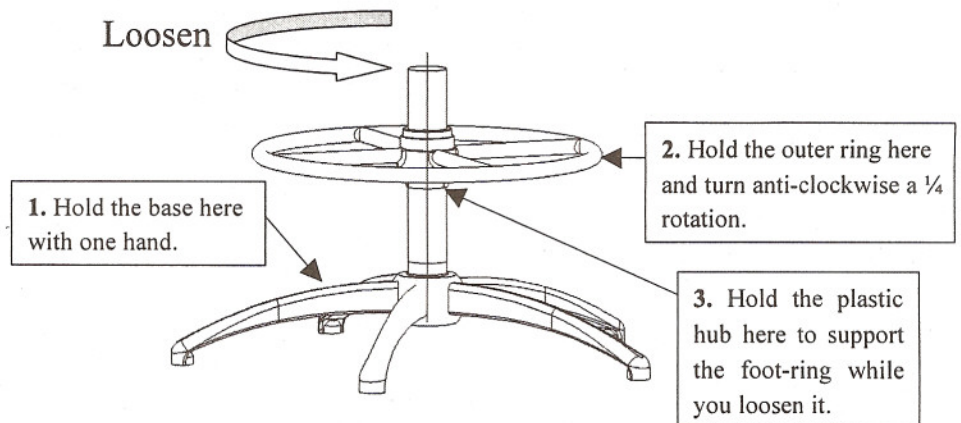

Fig. 5
3. Height Adjustment - Hold the base with one hand and turn the foot-ring anti-clockwise approx. a  $\frac{1}{4}$  rotation just to loosen. Hold the bottom of the plastic hub with one hand and the outer ring with the other and continue to turn anti-clockwise until the foot-ring is released and can move freely up and down the gas cylinder. (Refer to Fig. 5)